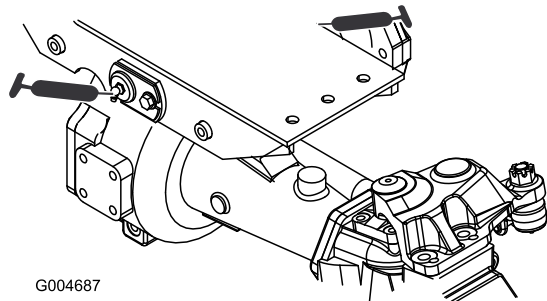

Figure 77
- 2 front and rear-axle-pivot bushings (Figure 77)